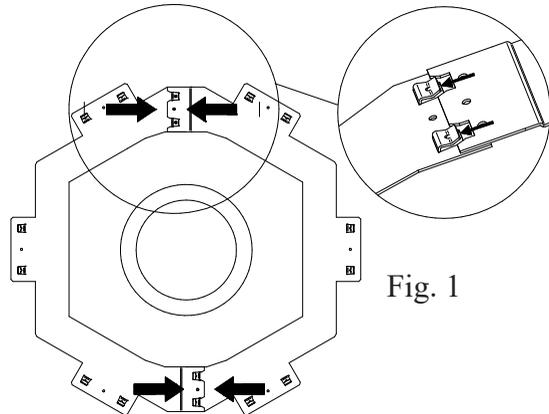

Fig. 1
- 1- Assemble the central ring one side at a time (Fig. 1) and make sure that each part is properly inserted into the other half-section (normally a click is heard).